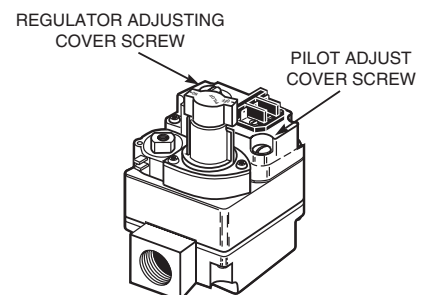

Figure 7. Pressure regulator adjustment
2. Remove "Reg. Adj." cover screw (see fig. 7).